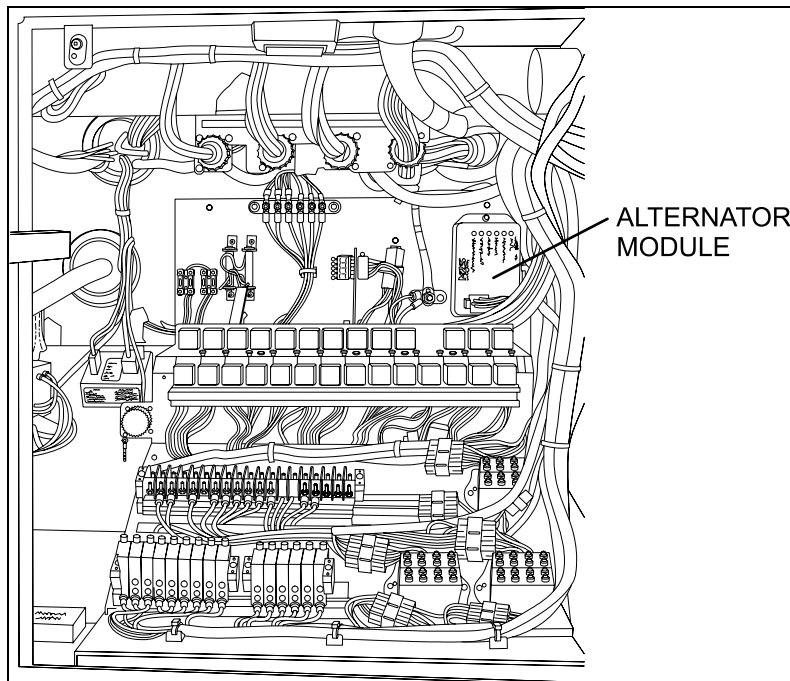

FIGURE 1 : REAR ELECTRICAL COMPARTMENT
3. Locate Bosch alternator module, refer to figure 1. Check module lot number (lot number is inscribed in bottom R.H. side corner). If lot number is equal to or above 2033A, module is correct. Close the door, the procedure is done. If lot number is below 2033A, replace module using the following steps.